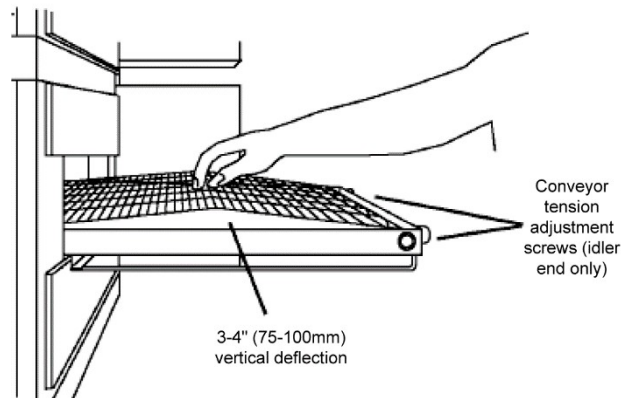

Figure 23. Conveyor Belt Tension
4. Check the tension of the conveyor belt as shown in Figure 23. The belt should lift about 1" (25mm) **DO NOT OVER TIGHTEN THE CONVEYOR BELT.**
NOTE: If necessary, the belt tension can be adjusted by turning the conveyor adjustment screws, located at the idler (non-control) end of the conveyor. See Figure 23.